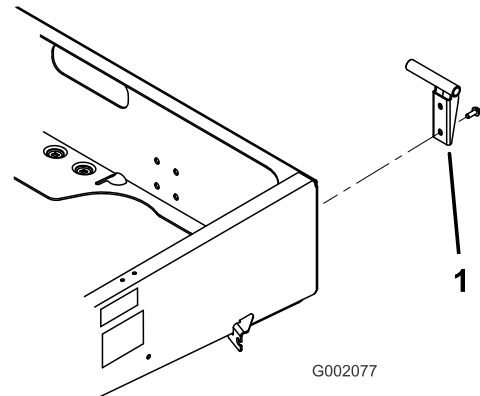

Figure 8
2. Mount the left hand pivot bracket to the left rear corner of the frame with 2 flange head screws (3/8 x 1 inch). Position the bracket as shown in Figure 8.